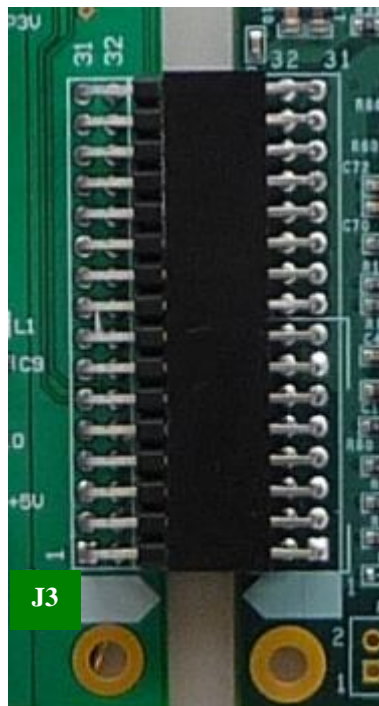

Figure 3: LMP91051EVM to SPIO-4 Board Connection
1. Connect the LMP91051EVM's **J3** to SPIO-4 Board's **J6**. See Figure 3.